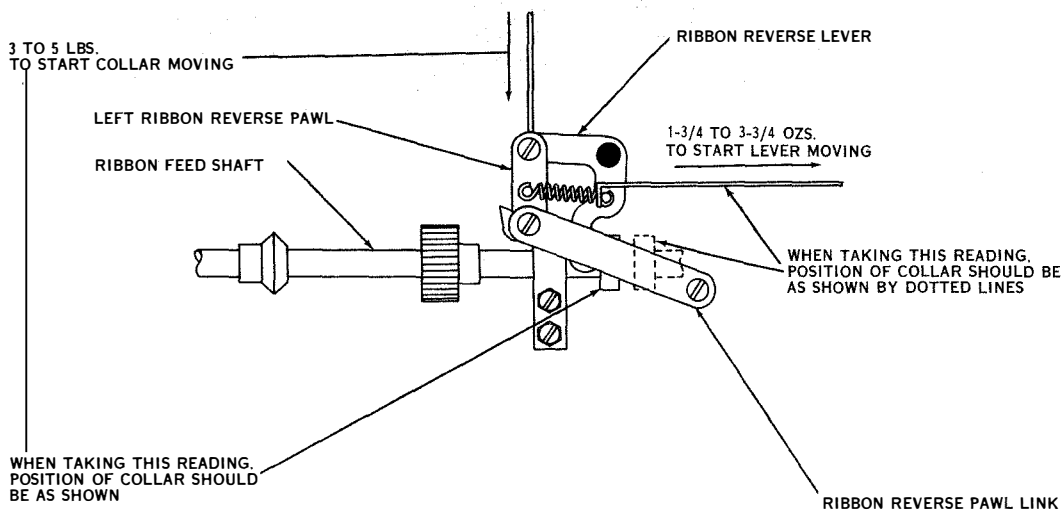

Figure 7-46. Ribbon Feed Shaft Safety Spring Compression and Reverse Pawl Spring Tension
(40) **RIBBON FEED SHAFT SAFETY SPRING COMPRESSION.** (See figure 7-46.)—A tension of three to five pounds should be required to start the spring
(47) RIGHT AND LEFT RIBBON REVERSE PAWLS SPRING TENSION. (See figure 7-46.)—A tension of $1\frac{3}{4}$ to $3\frac{3}{4}$ ounces should be required to start the ribbon reverse lever moving. To check, move the ribbon feed shaft to its left-hand position and hook an eight-ounce scale over the spring post on the left ribbon reverse lever. Pull in line with the spring and note the tension as the lever starts to move. Move the feed shaft to its right-hand position and check the right spring in the same manner.